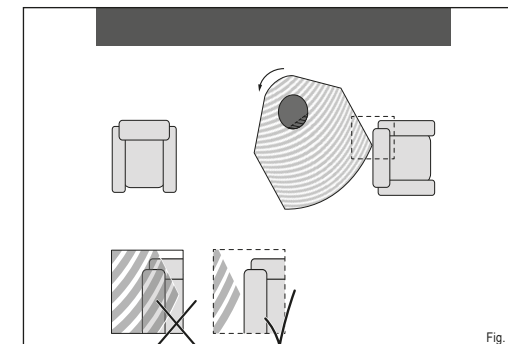
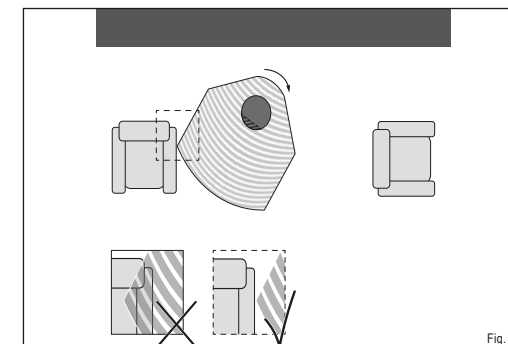

Fig. 10
Fig. 11
- **Flammable materials, e.g. furniture, must not be located within the radiation range of the stove at the set radiation area (Fig. 10 and Fig. 11).**